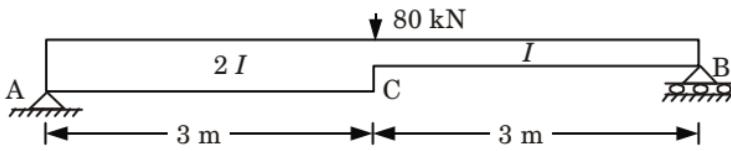

Fig. 3.
- b. Determine the slopes at supports and deflection under the load for the beam shown in Fig. 3. Take Young's modulus  $E$  as 210 GPa, moment of inertia as  $120 \times 10^6 \text{ mm}^4$ . Adopt conjugate beam method.